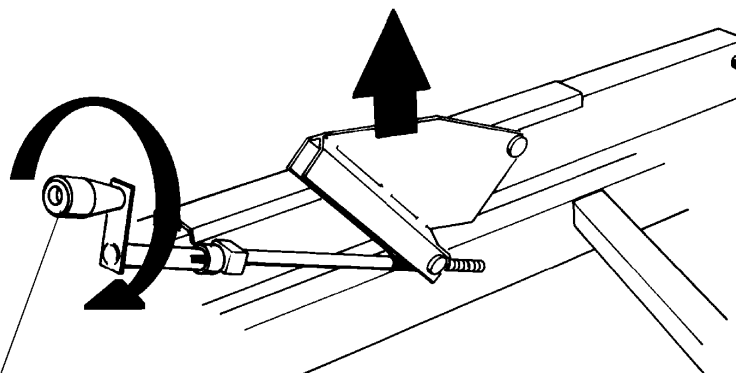

FIG. 1-2
6. Remeasure both ends of the log from the bed rails and adjust toe board as necessary until both ends measure the same distance from the bed rails. **See Fig. 1-2.**